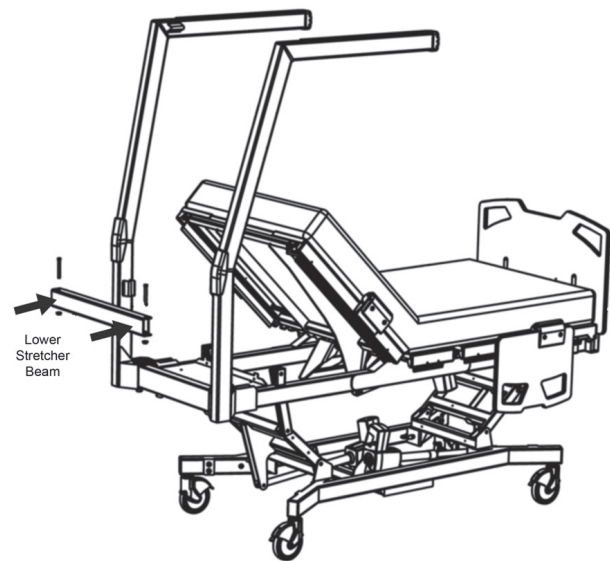

Figure 3
3. Install lower stretcher beam to the left patient helper frame, loosely bolt with 3/8" bolt and nylon locking nut (see Figure 3).